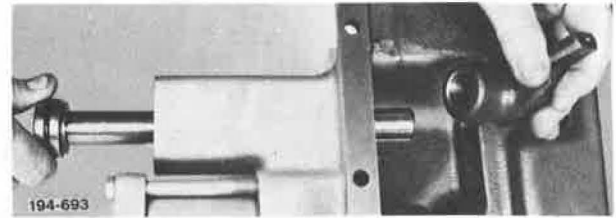

Figure 5-352. Removing Shift Rail and Shifter
5. Slide reverse shift rail rearward out of cover, and, as it moves, remove reverse shifter through bottom opening. See Figure 5-352.